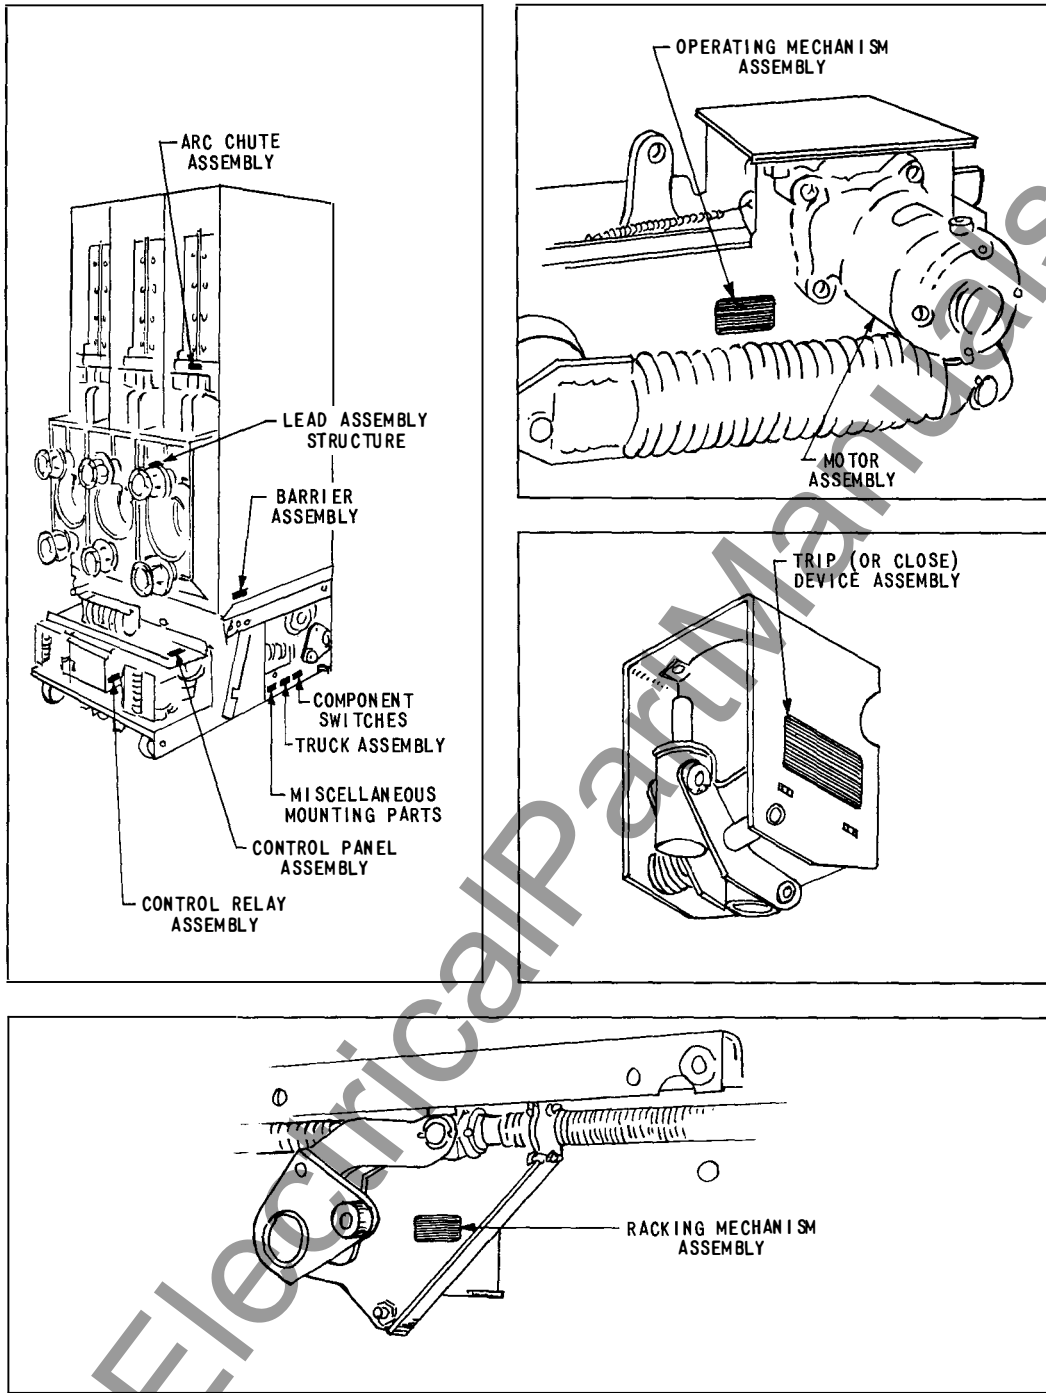

Fig. 2 — Service Number Label Locations for 5HK150 Circuit Breakers
- ⊙ Specify service numbers from labels (locations indicated in Fig. 2, on back cover) for breaker basic assemblies, Customer's original purchase order and I-T-E shop order.